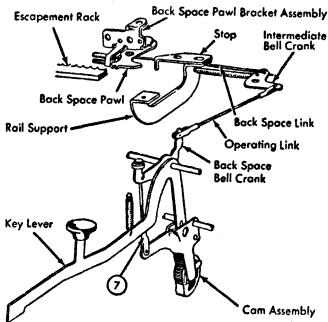

Figure 31. Backspace Mechanism
crank which moves the backspace operating link. This action rotates the intermediate bell crank, pulling on the backspace link to move the backspace pawl. When the pawl begins to move, it is cammed toward the escapement rack because of the angular slot of the pawl and the fact that the springs hold the pawl against the guide lug. When the pawl has moved as far as the slot will permit, it then is engaged with the teeth of the escapement rack. Further motion moves the pawl to the right which moves the carriage over one space. At this time the backspace pawl hits the backspace pawl stop and halts any more motion to the right (Figure 31).
7. CAM CLEARANCE. Adjust cam clearance to the power roll so that the cam release lever will drop behind the cam lug when tripped with the power off. Be sure the leather stop of the backspace bell crank is touching the underneath side of the key lever spring support when this adjustment is observed (Figure 31).